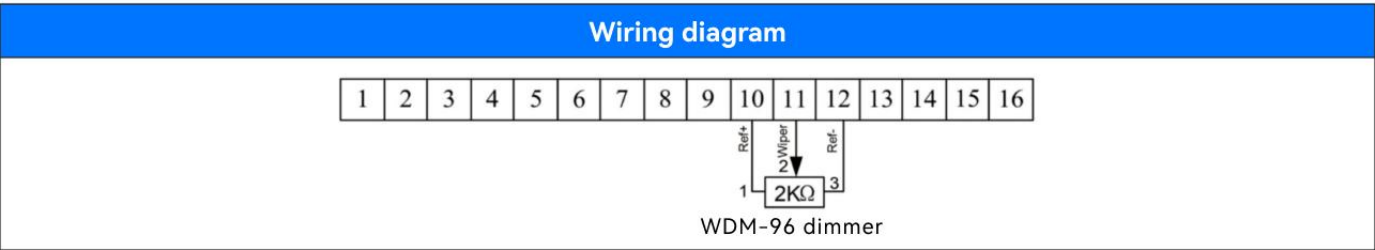

Figure 1.3
1. Connect cables to the WLF-90 handle, as shown in Figure 1.3.